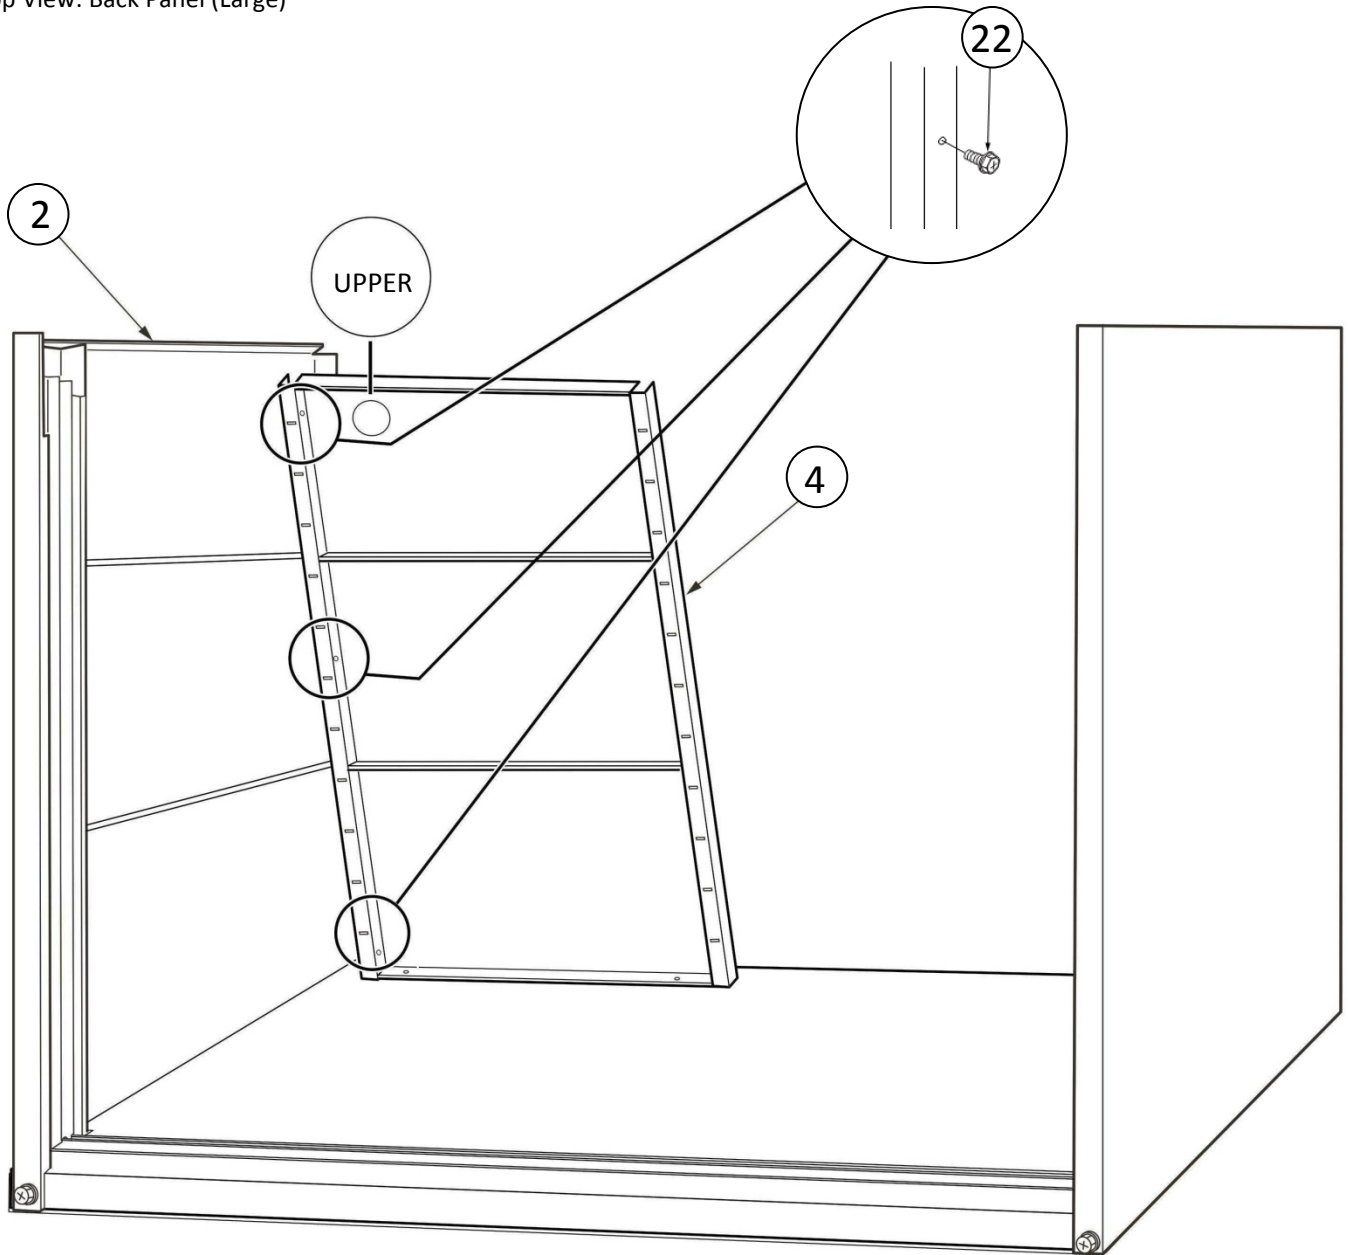

Figure 3.
(GB) Combine [Part 4] Back Panel (Large) with [Part 2] Side Panel (Left) and secure using 3no. [Part 22] Hexagon Bolt with Rubber Washer as shown in Figure 3.